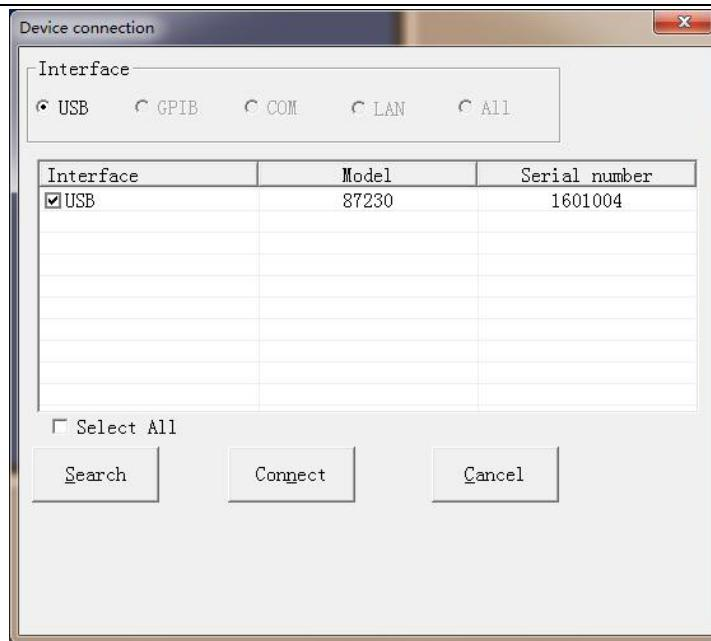

Fig. 3.3 Equipment Connection Window
**Step 1.** Connect the USB power sensor with the computer; open the power test panel; select the USB device to be connected in the pop up “Instrument Connection” window in the system, and click “Connection” button. As shown in Fig. 3.3, the measurement process is normal;